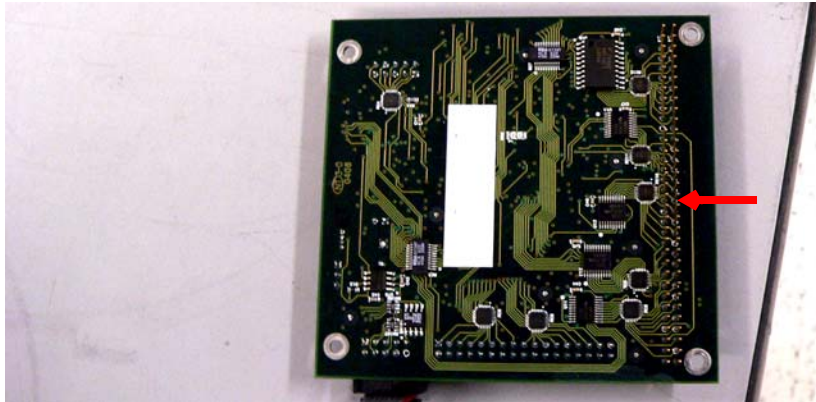

Figure B-30 Pins Underneath
7. Pull the board gently straight up to avoid damaging the pins underneath (Figure B-30).
8. Lower the new board into position by carefully aligning the pins seen in Figure B-30.